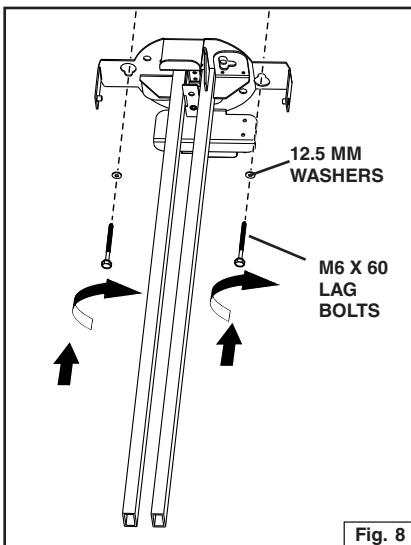

Fig. 8
2. Mount the telescopic arm. Attach with (2) M6 x 60 lag bolts with (2) 12.5 mm washers - mount the two key hole slots first (2 bolts / arm). Make sure the arms are perpendicular to the ceiling. Fig. 8.